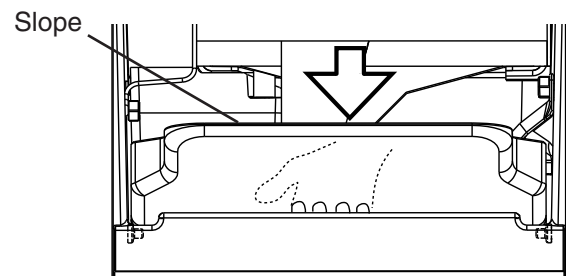

**Fig. 46**
- 14) Slide in the water tank along the rails at the bottom of the left and right brackets until it locks into place. See Fig. 46.